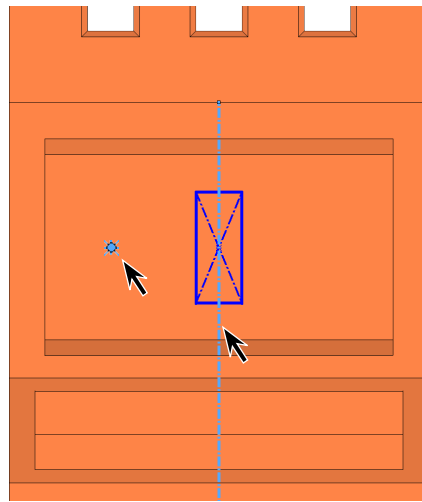

Fig. 44
Step 11. **Ctrl click point and centerline** select both, **Fig. 44.**
Step 13. Click **Smart Dimension**  (S) on the Sketch toolbar.